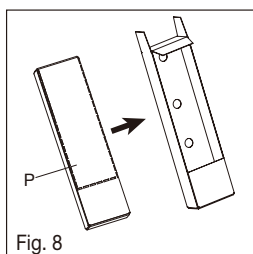

Fig. 8
- ☐ Tear the drilling template box (P) according to the dashed line (see Fig. 8).